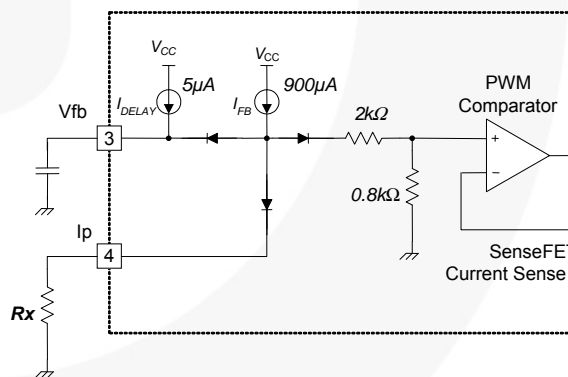

Figure 18. Peak Current Limit Adjustment
7. Adjusting Peak Current Limit: As shown in Figure 18, a combined 2.8kΩ internal resistance is connected to the non-inverting lead on the PWM comparator. An external resistance of R_x on the current limit pin forms a parallel resistance with the 2.8kΩ when the internal diodes are biased by the main current source of 900μA.